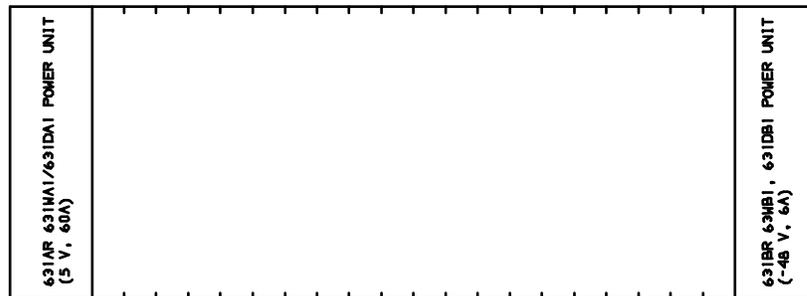

FIGURE 4-26. Power Unit Locations
15. Install the 631-type power units (removed from R1V3) into both the “A” and “B” carriers. There are three different pairs of power units available. They are the 631AR1 and 631BR1, the 631WA1 and 631WB1, and the 631DA1 and 631DB1. Do not interchange the units. The 631AR1, 631WA1, or 631DA1 are installed in the left side, while the 631BR1, 631WB1, or 631DB1 are installed in the right side (see Figure 4-26).